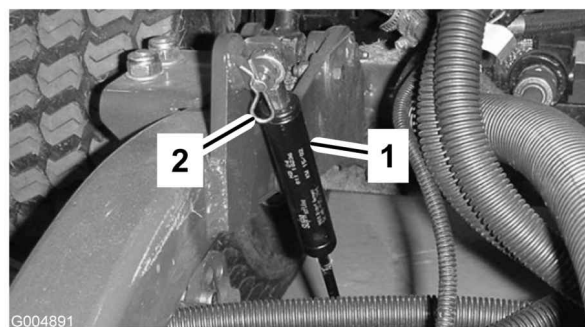

Figure 80
2. Remove the hairpin cotter securing dampers to lift arms (Figure 80). Pivot damper toward deck housing.